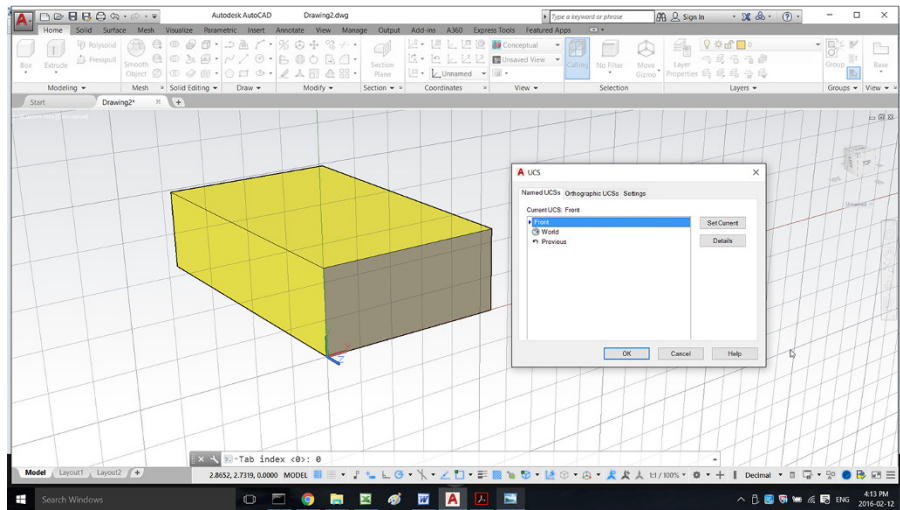

FIGURE 21-3:
The Unnamed UCS is renamed (see Figure 21-3).
- » **Conceptual:** An illustrative kind of shaded view. Colors are unrealistic and edges are heavy, but you get a good sense of the model's form. Refer to Figure 21-3 to see an example of the Conceptual visual style.